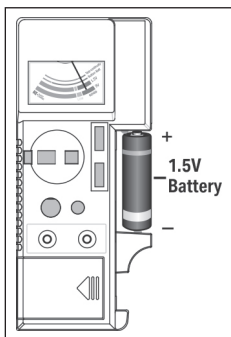

Fig. 1
1. Position the lower 1.5V battery test contact (1) as appropriate and insert the battery according to the marked polarity (Fig. 1).
2. To read the battery level, observe the position of the gauge (7) needle against the scale band marked "1.5V".